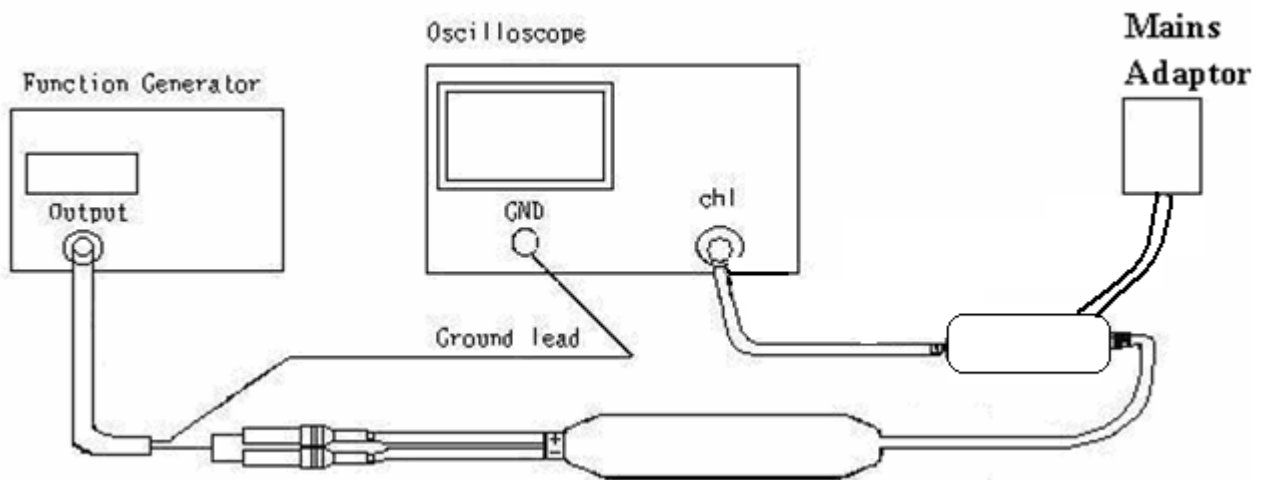

Fig. 5
- D-1. Connect the probe as shown in figure 5.